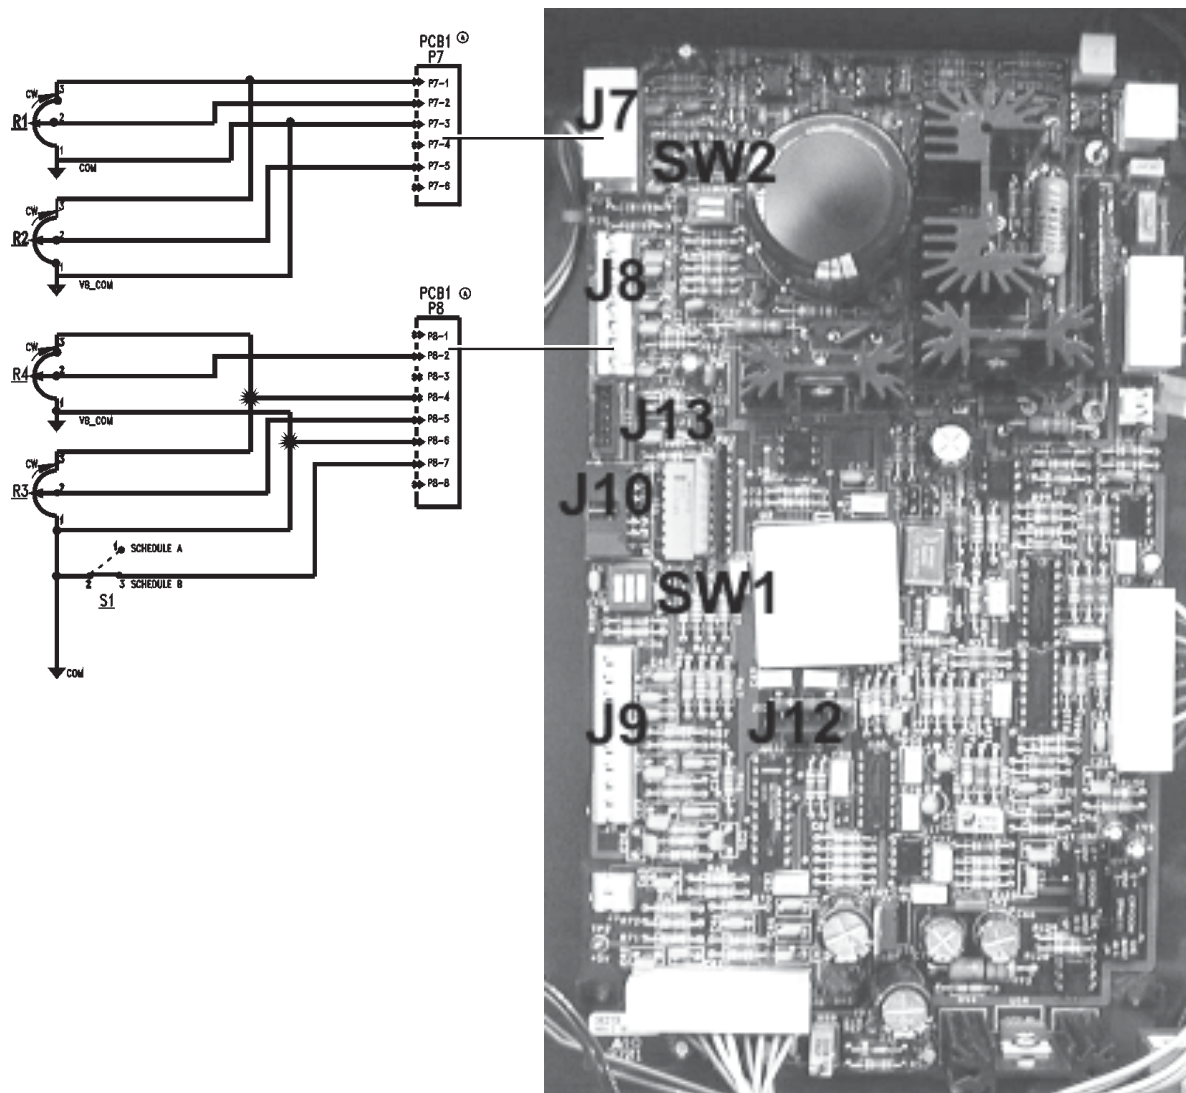

Figure 4 **Panel Nuts**
- d. Lift up the hinged drive stand door to the top position with the motor and gearbox attached (see Figure 4).